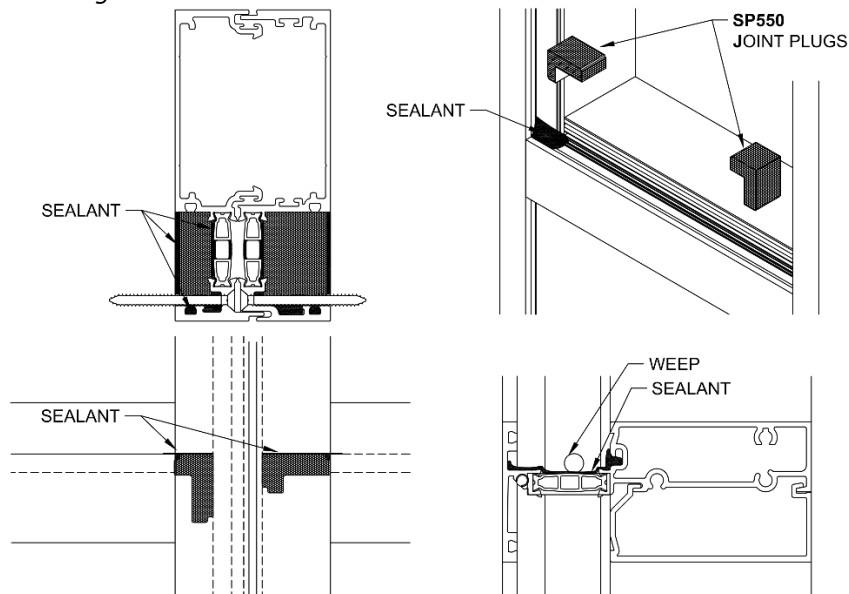

Figure 41: Joint Plug Installation
15.1.1 Install **SP550** Joint Plugs at Split Mullions. *Figure 41* shows the various views for Joint Plug installation. Seal all sides that contact the aluminum and place in the opening, sitting flush with the top of the horizontal glazing pocket. Be sure to keep the weep hole free of Sealant to ensure drainage.
15.1.2 Seal the small opening at the front of the Vertical to dam the area completely, as shown in *Figure 41*.